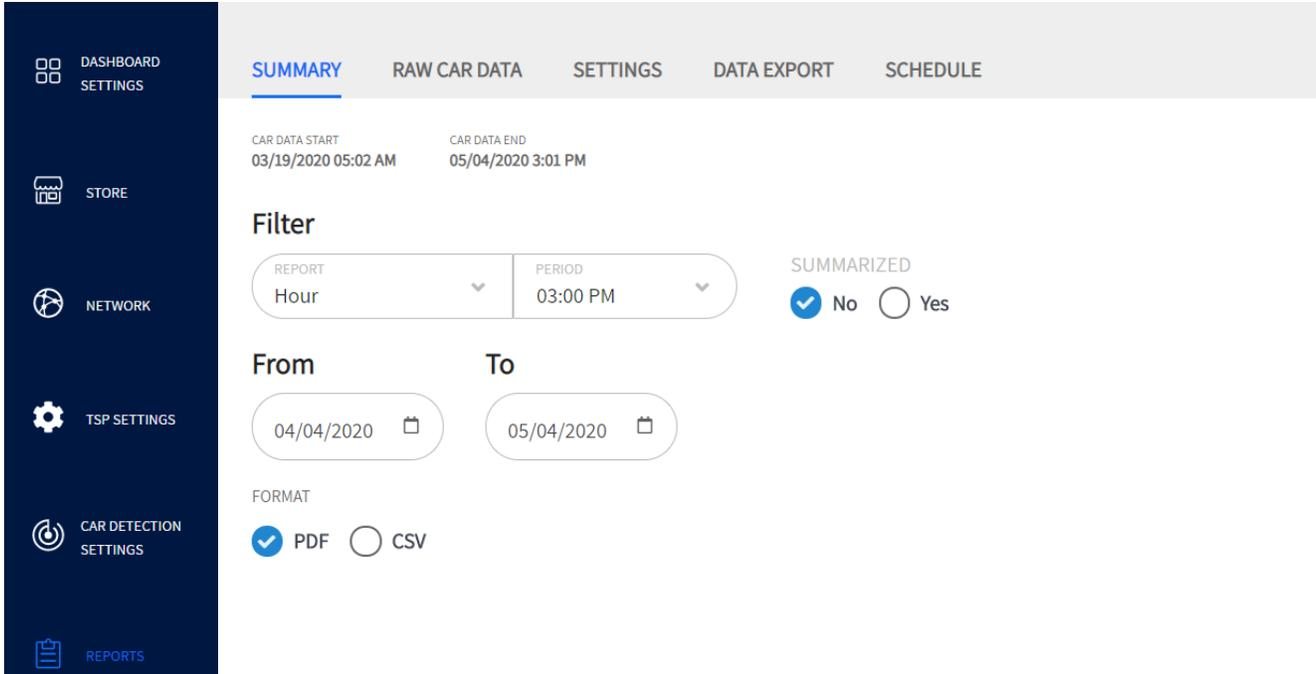

Fig. 8.1
**Example:** Fig. 8.1 shows a one-month report summary for the hour at 3:00 PM from April 4, 2020, to May 4, 2020.